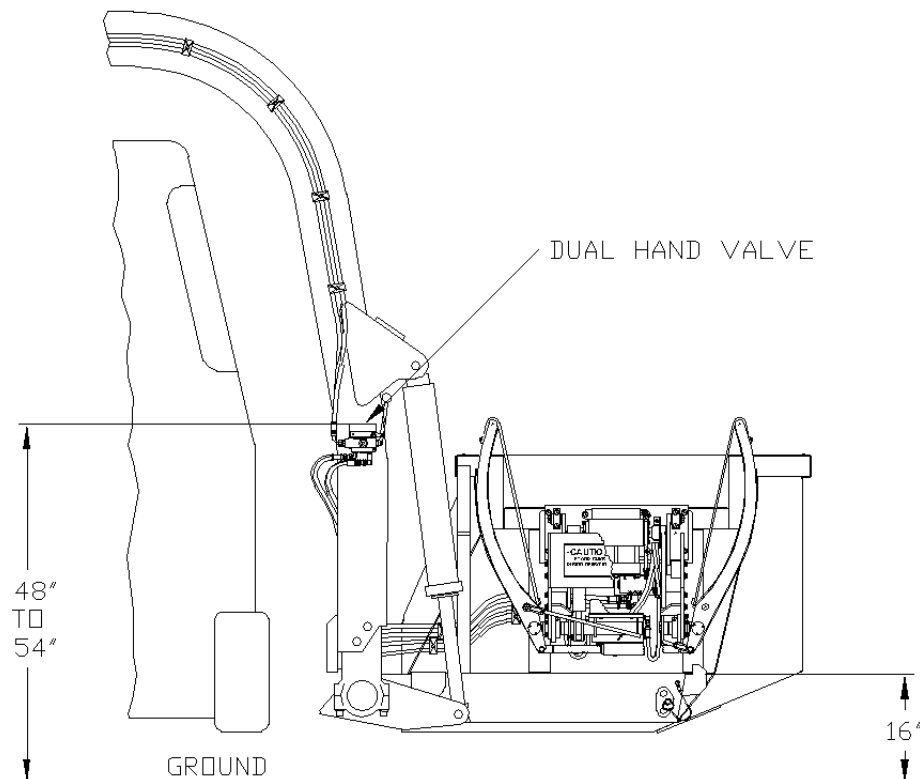

figure I-1
1. Place the Bayne front load carry can and lifter assembly on the ground in front of the truck fork arms. Insert the fork arms into the fork pockets on each side of the carry can as shown in figure I-1. Insert the locking pins either under or thru each fork to lock the carry can to the truck fork arms. **DO NOT DUMP THE CARRY CAN INTO THE HOPPER UNTIL THE HYDRAULICS HAVE BEEN CONNECTED AND ALL AIR IS PURGED FROM THE SYSTEM.**
2. Adjust the ride height of the front load carry can to obtain a distance of approximately 16" from the top of the fork to the ground as shown in figure I-1.
1. Choose and mark an acceptable location on the truck approximately 48” to 54” from the ground to mount the hand valve assembly as shown in figure I-1.